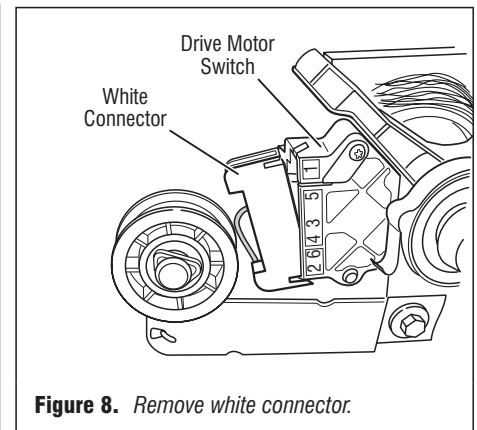

Figure 8. Remove white connector.
- Remove the white connector from the drive motor switch. See figure 8.